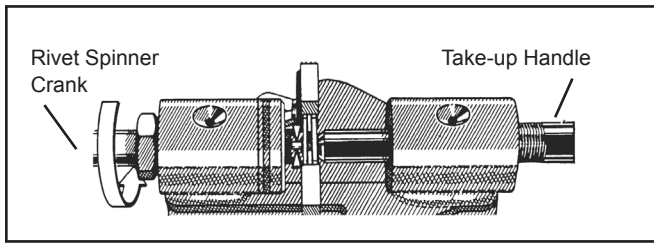

Figure 19. Centering the Rivet Hub
4. Turn the rivet spinner crank a few times to center the rivet hub in the spinner anvil (Figure 19).